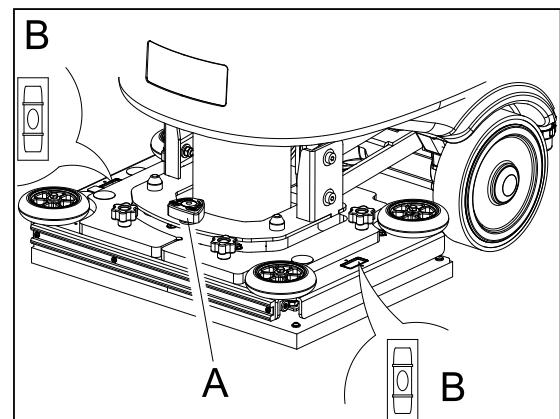

Figure 9.1
2. Adjust the level of orbital deck by adjusting handle (A, Figure 9.1) . made the bubble in the middle (B, Figure 9.1).